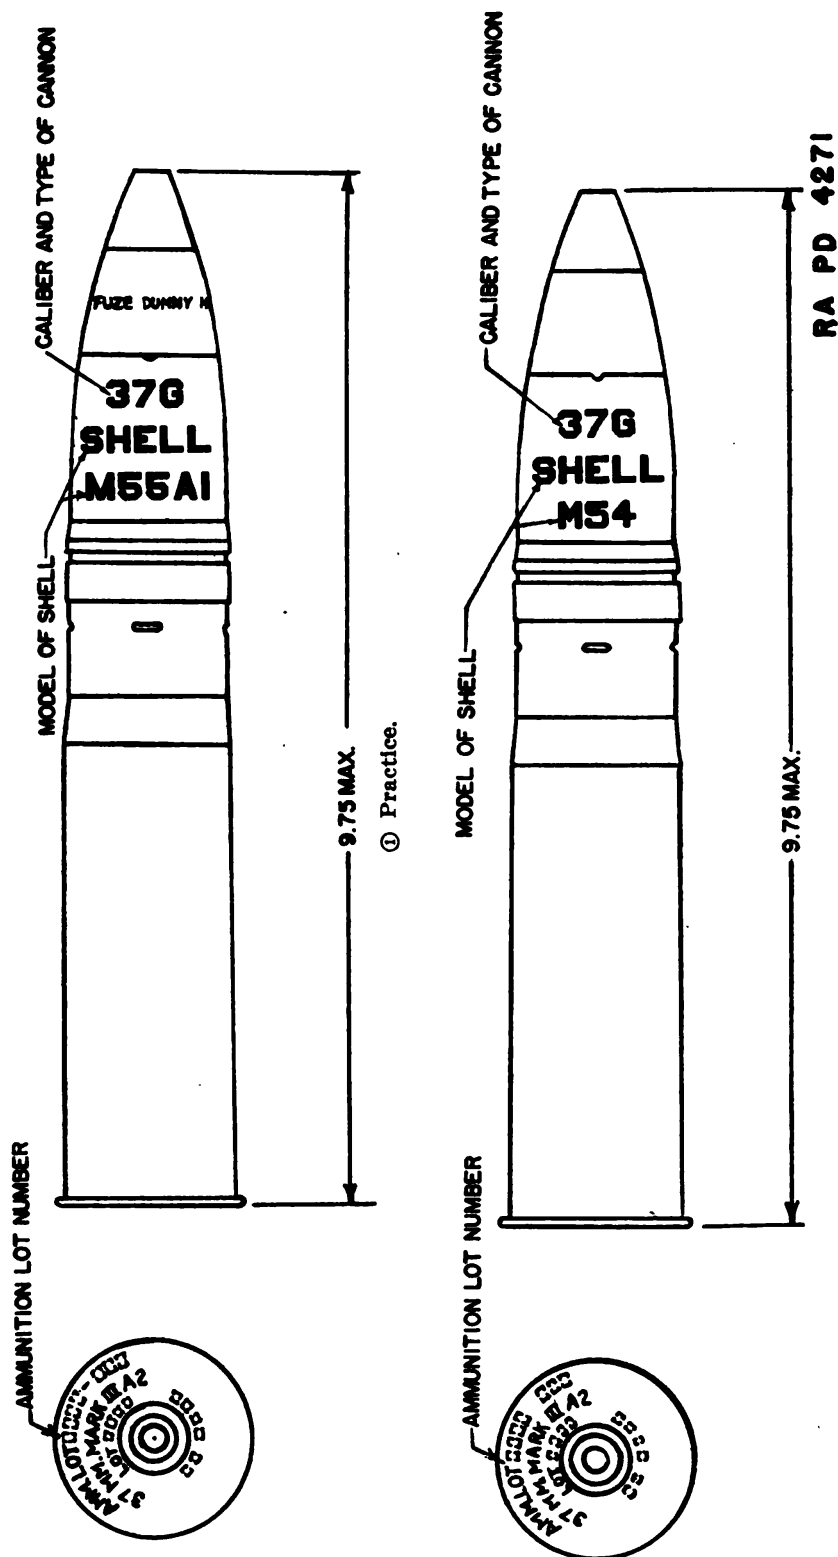

FIGURE 32.—Shell.
37. Identification.—Ammunition, including components, is completely identified by means of the painting, marking (fig. 32), and accompanying ammunition data card.
c. Marking.—(1) The following information is stenciled on the projectile (fig. 32):